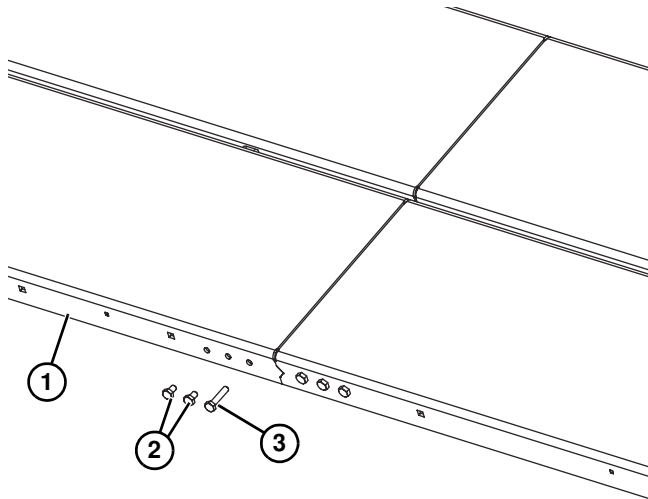

Figure 6
3. Install conveyor frame extension (**Figure 6, item 1**) on frame connecting bar with two short screws (**Figure 6, item 2**) and one long screw (**Figure 6, item 3**). Install three screws on opposite side.